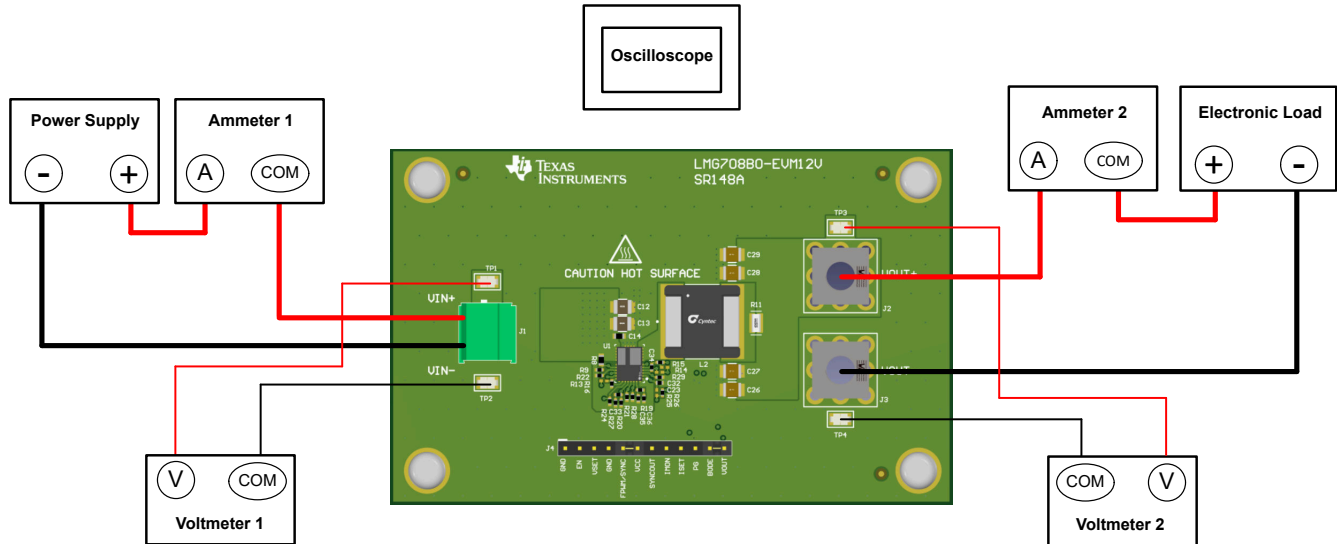

Figure 2-1. EVM Test Setup
Referencing the EVM connections described in Table 2-1 and Figure 2-1 show the recommended test setup to evaluate the LMG708B0-EVM12V. Working at an ESD-protected workstation, verify that any wrist straps, boot straps, or mats are connected and referencing the user to earth ground before handling the EVM.
- Prior to connecting the DC input source, set the current limit of the input supply to 0.1A maximum. Make sure the input source is initially set to 0V and connected to the VIN+ and VIN– connection points as shown in Figure 2-1. TI recommends an additional input bulk capacitor to provide damping when using long input lines.